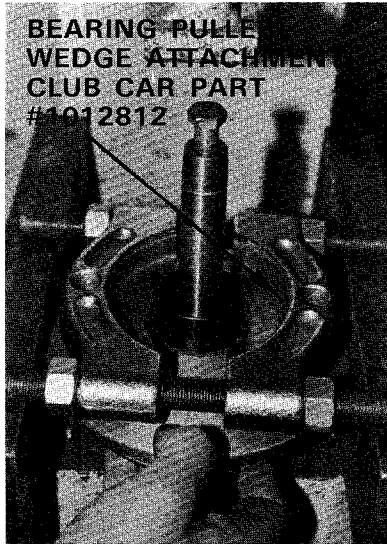

Figure 9-10
9. Remove the idler bearing (2) (Figure 9-10).